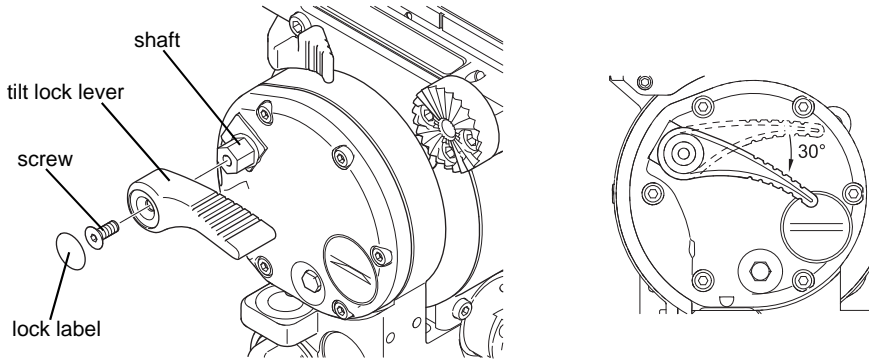

Figure 5 Adjusting the pan and tilt lock levers
1. Rotate the lock lever to the "locked" position (see Figure 5).